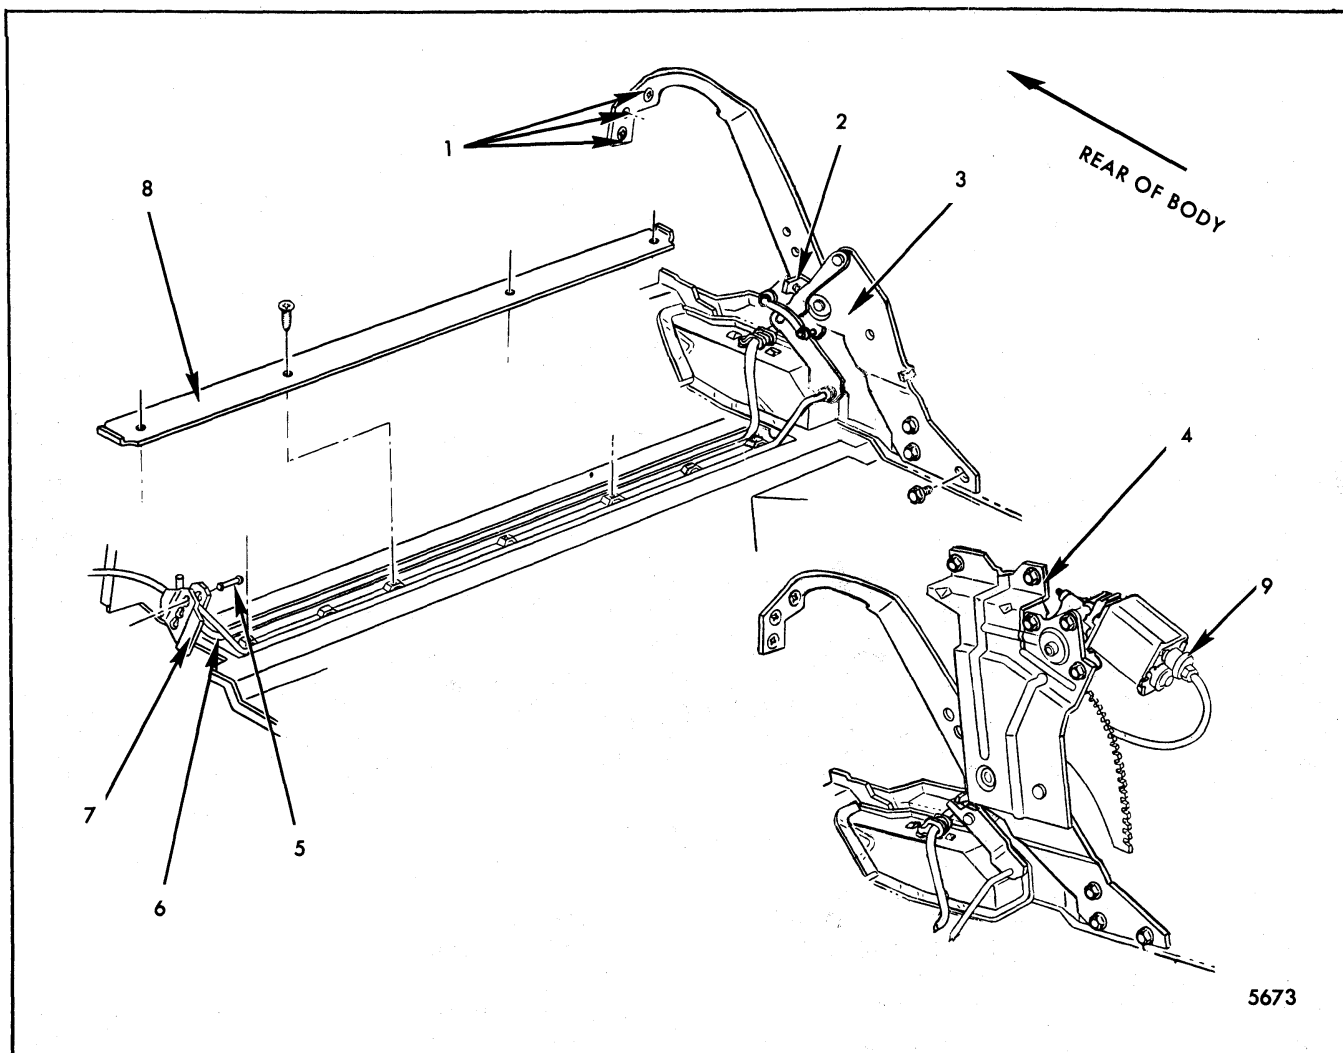

Fig. 7-140-Tailgate Torque Rod and Hinge Arm Relationship
Operating effort is reduced by a torque rod assembly that acts upon the regulator lift arm and hinge (Fig. 7-140).
3. Remove torque rod cover plate screws and remove cover plate (Fig. 7-140).
3. On manual tailgates adjust tailgate drop adjusting screw (Fig. 7-140) if necessary, so that tailgate drops 3 to 6 inches after being released by the control knob.
A lift arm and hinge assembly is mounted to the left quarter inner construction and to the left upper inner corner of the gate to provide raising and lowering effort. For power operated tailgates a motor and sector are added to the assembly. The assembly mounting holes are elongated to allow down-forward and aft-upward adjustment to the left side of the gate (Fig. 7-140).
attaching screws and carefully lower tailgate. On power-operated units, disconnect wire harness at motor terminal (Fig. 7-140).
remove motor-to-regulator attaching bolts. Remove motor (Fig. 7-140).